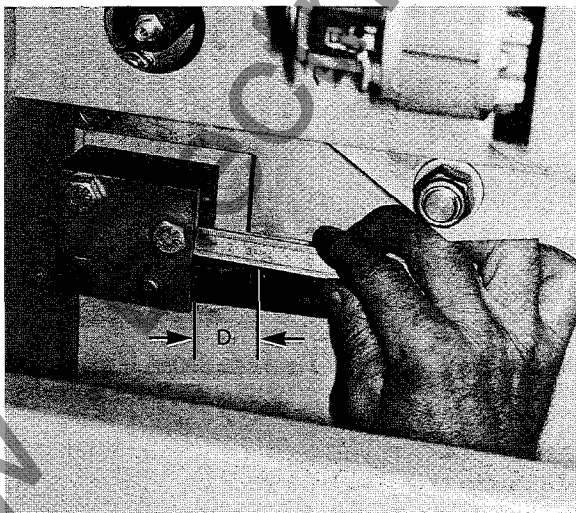

Figure 41: Stop block measurement
5. Move the cross links as far to the left as possible. Measure the distance between the stop block surface and the surfaces of the cross links which come into contact with the stop screw (D_1 , figure 41).